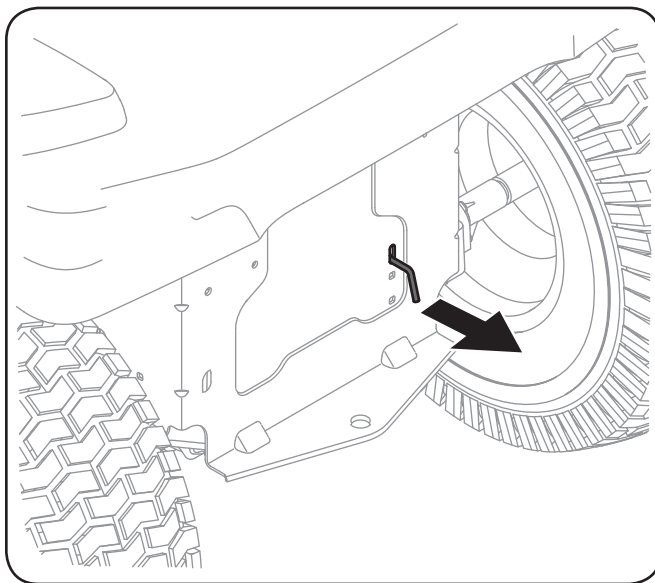

Figure 3-1
1. Engage the transmission bypass rod to move the tractor manually without starting it. The transmission bypass rod is located on the rear of the tractor, on the frame. Engage the bypass rod by pulling out. See Figure 3-1.
2. Disengage the bypass rod by pushing the rod back in after moving the tractor. See Figure 3-1.